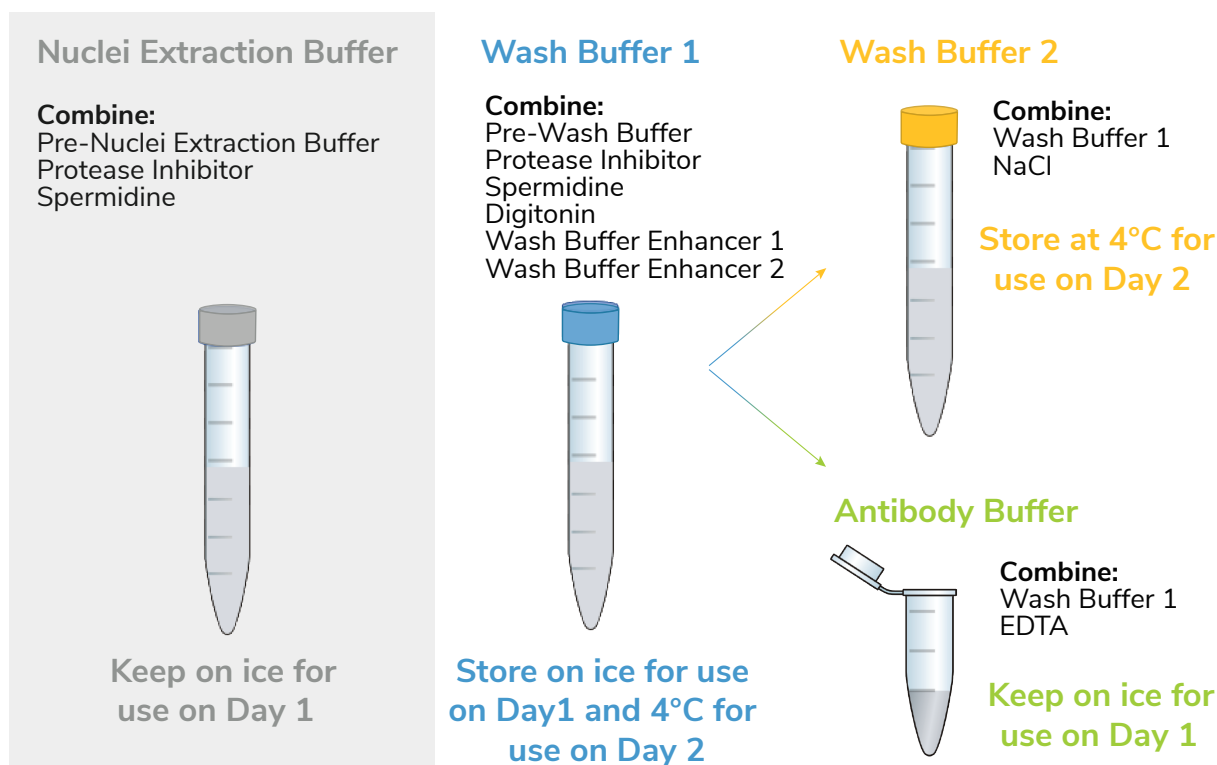

FIGURE 7
- * These buffers (Figure 7) are prepared FRESH on Day 1 of every CUT&Tag experiment.